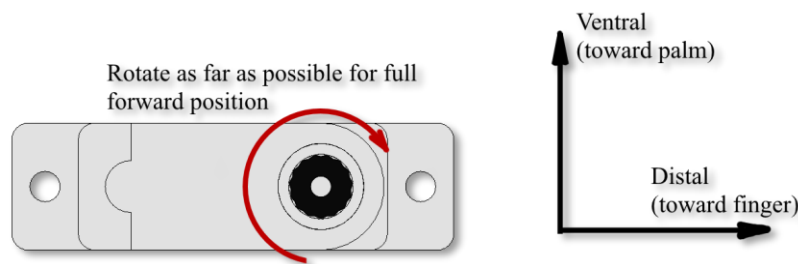

Figure 17: Full Forward Position of servo
2. Install a zip-tie in the servo spool as per Figure 17.